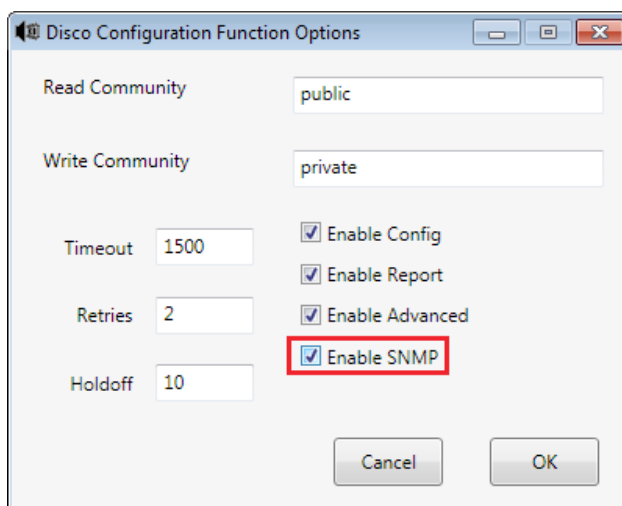

Figure 21: CobraNet Discovery Function Options
1. Open CobraNet Discovery and go to **Tools > Preference**. In the *Disco Configuration Function Options* window (**Figure 21**), ensure that **Enable SNMP** is checked, and then click **OK**.